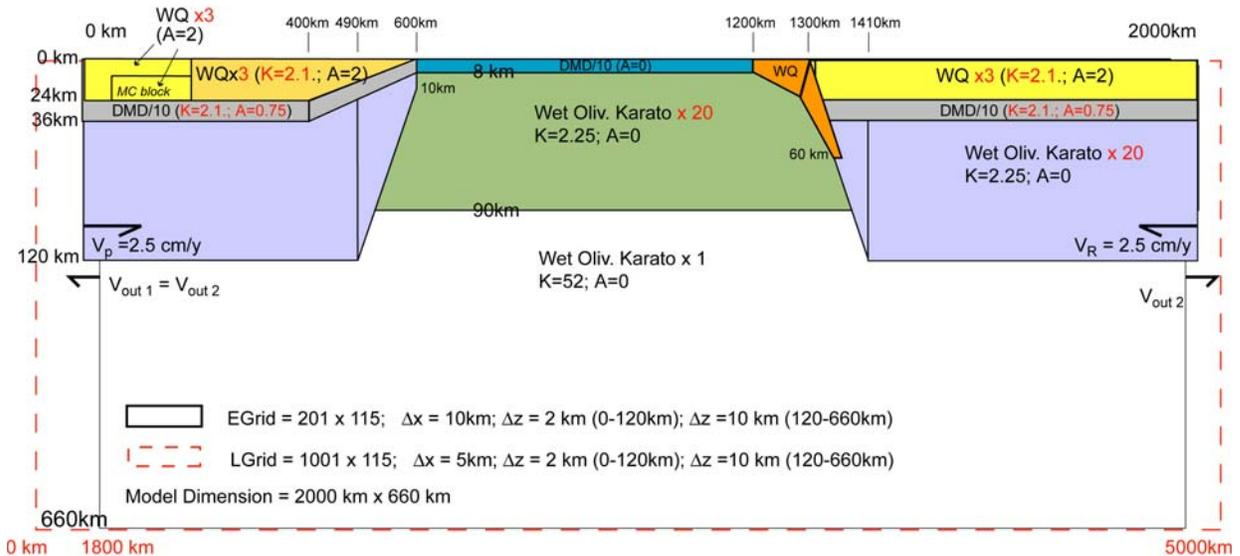

Figure 3 Diagram showing the model set up of a SOPALE Deep Model.
- 5) Diagrams should be drawn to illustrate the model set up of a new model series (Figure 3). The figure was based on the initial condition (time step 1) but with the vertical scale exaggerated.